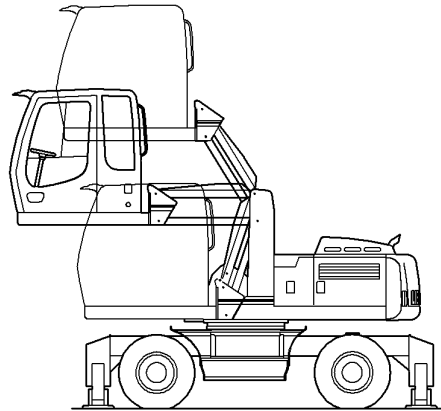

Fig. 3-84 Elevating operator's cab
- ▶ In machines with elevating operator's cab, move the cab to its most extended position, (see Fig. 3-84).